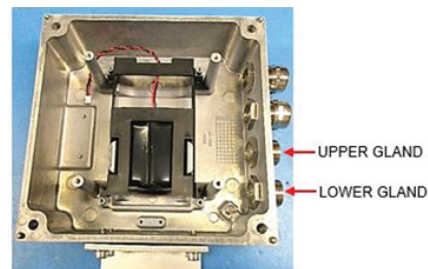

Figure 7: M5000 amplifier housing
- Remove the bottom two (2) cable glands on the amplifier and remove the plugs from the cable glands. See Figure 7.
- Replace the upper cable gland dome nut. See Figure 7.
- Replace the lower cable gland dome nut. See Figure 7.